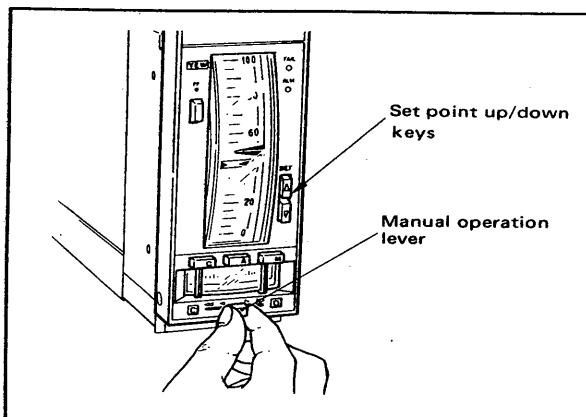

Figure 5-3-2. Manual Output Operation.
- b. Adjust the manipulated output signal by moving manual operation lever to the left or right. (See Figure 5-3-2.)
- c. Set a desired setpoint by using the set point up/down keys. (See Figure 5-3-2.)